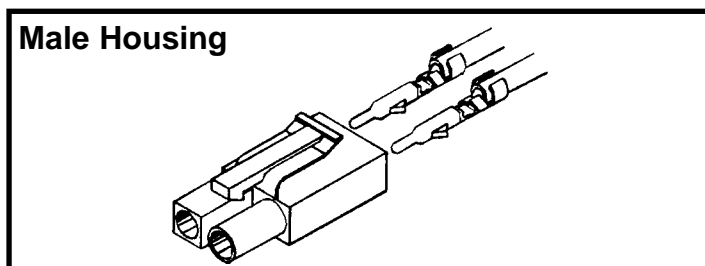

Figure 4
5. Insert the two pin/wire assemblies into the male housing as shown in Figure 4. Pull on the wire to check that the pin is inserted all the way in. It should not pull out of the housing.